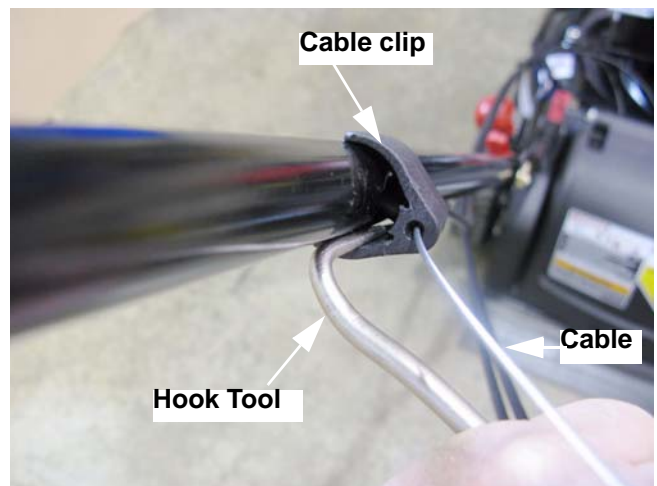

Figure 3.5
6. Pry the cable clip off of the handlebar. See Figure 3.5.